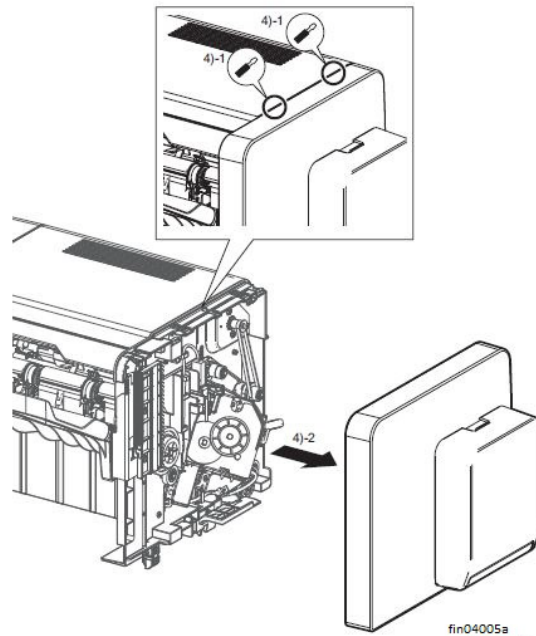

Figure 2 Right cover removal
4. Perform the steps that follow, Figure 2.